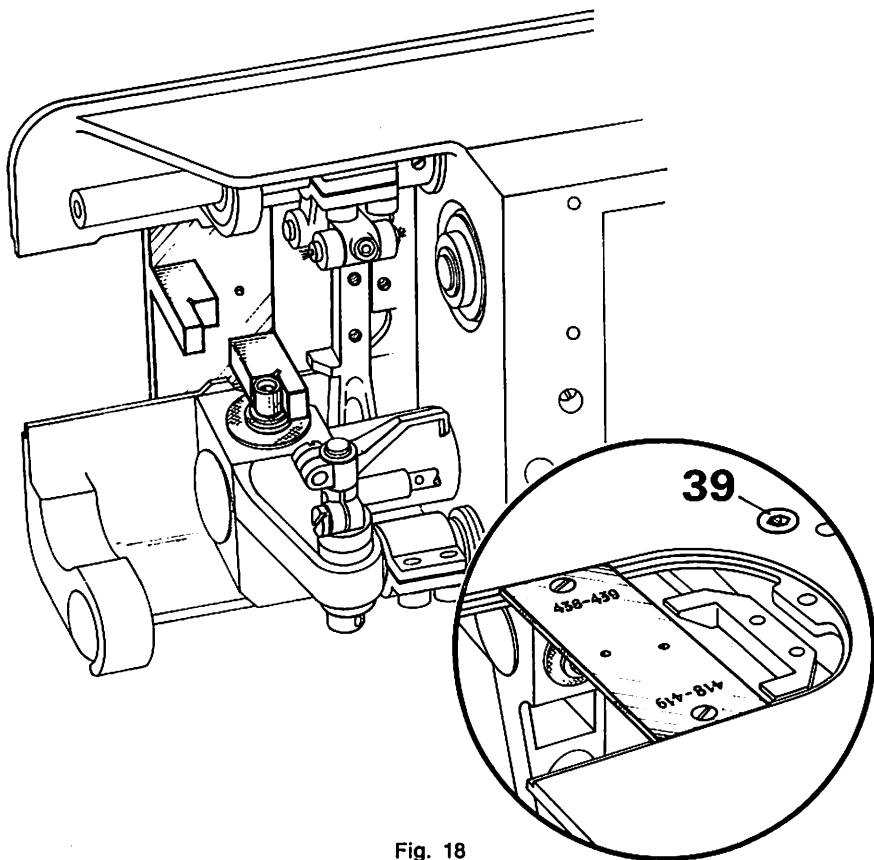

Fig. 18
- 15. Adjusting the Hook Bearing Bracket (Fig. 18)**
- 15.6 Loosen allen screw 39 on the bedplate (see circle in Fig. 18) and release the taper key of the hook bearing bracket underneath this screw by tapping the head of the allen screw lightly with a hammer.
- 15.7 Screw on the hook bearing bracket so that numbers 438 and 439 can be read from the front. (See circle in Fig. 18.)